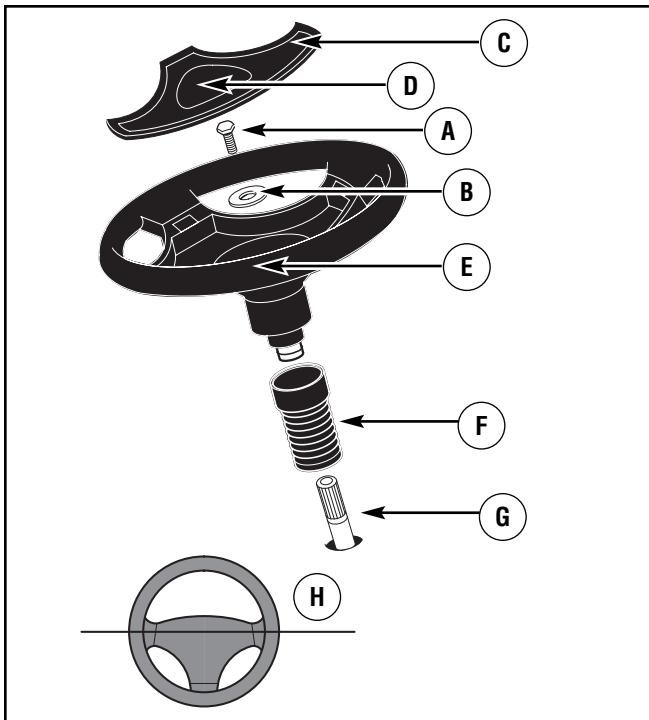

Figure 7: Steering post
2. Slide the **bellows** over the **steering post** (Figure 7).
NOTE: Before attachment of the steering wheel, make sure that the front wheels point forward and are straight. For proper alignment of the steering wheel, see Figure 7.